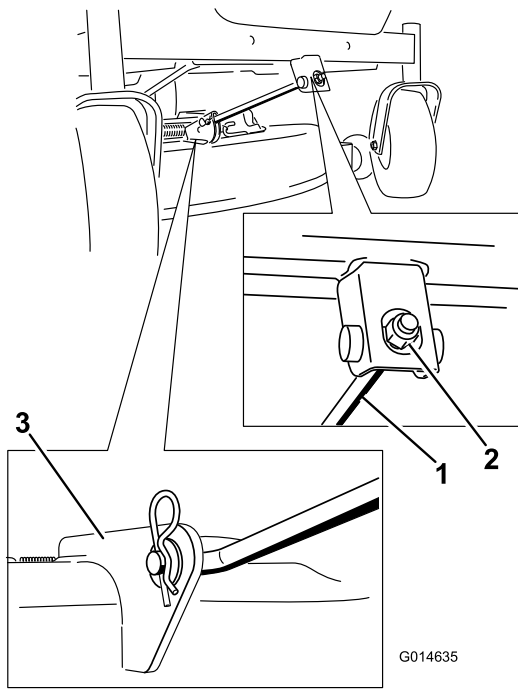

Figure 59
4. Remove the hairpin cotter from the front support rod, and remove the rod from the deck bracket (Figure 59).
- 6. Attach the front support rod to the mower deck with the clevis pin and hairpin cotter (Figure 59).